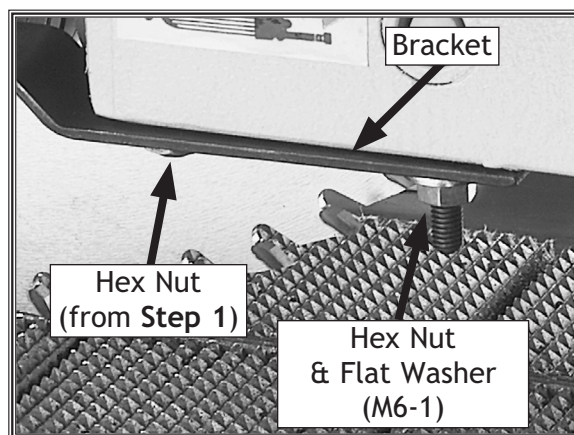

Figure 24. Auxiliary pressure roller bracket.
5. Place the four auxiliary roller brackets over the protruding set screws, and secure them with the four M6-1 hex nuts and flat washers, as well as the four hex nuts removed in **Step 1** (see **Figure 24**).